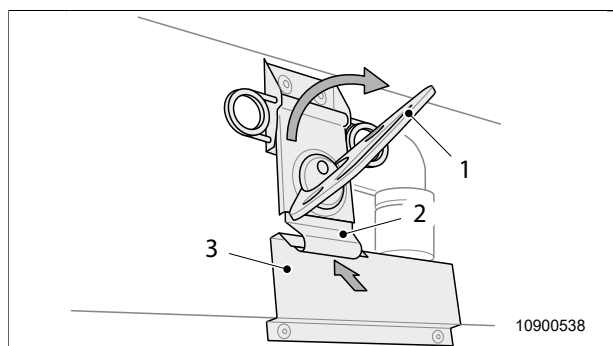

Fig. 44 Closing the turn lock
8. Secure the pop-up roof on the right and left side using the turn locks (Fig. 44):
- Fold out the handle (Fig. 44, item 1) of the turn lock.
- Hook the movable hook (Fig. 44, item 2) of the turn lock into the permanently fitted counterpart (Fig. 44, item 3).